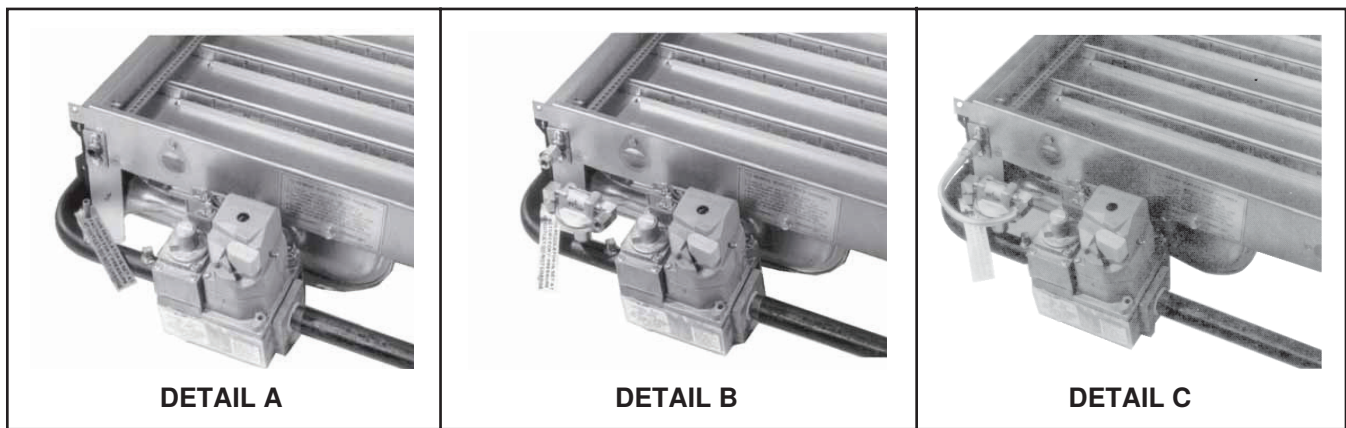

Figure 63. Propane Gas Connections
- (1) Install and tighten 1/4-inch tube into straight brass fitting and place warning tag on tube as shown in Figure 63, DETAIL A.
- (2) Install regulator—with brass elbows already installed—and position as shown in Figure 63, DETAIL B. Slide nut and ferrule on brass elbow over 1/4-inch tube and tighten.
- (3) Install and tighten carryover tubing between carryover orifice and regulator as shown in Figure 63, DETAIL C.